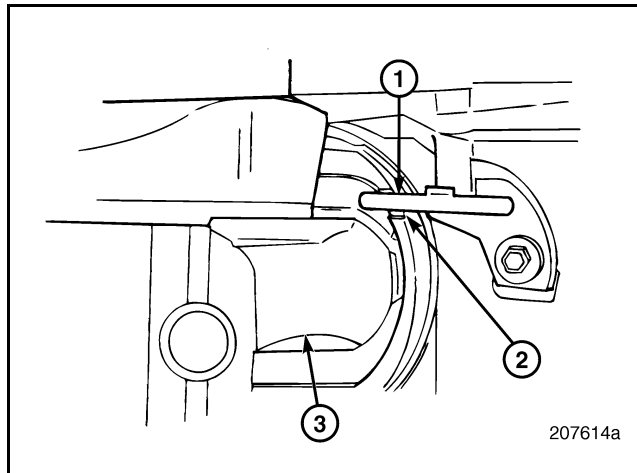

Figure 243 — Piston Skirt/Cooling Nozzle Alignment
Before pushing the piston all the way down in the sleeve, check to see if piston cooling nozzle (1) is aligned with the nozzle clearance notch (2) provided in the lower end of the piston skirt as shown in Figure 243. Damage to piston or spray nozzle may result if it is not aligned.